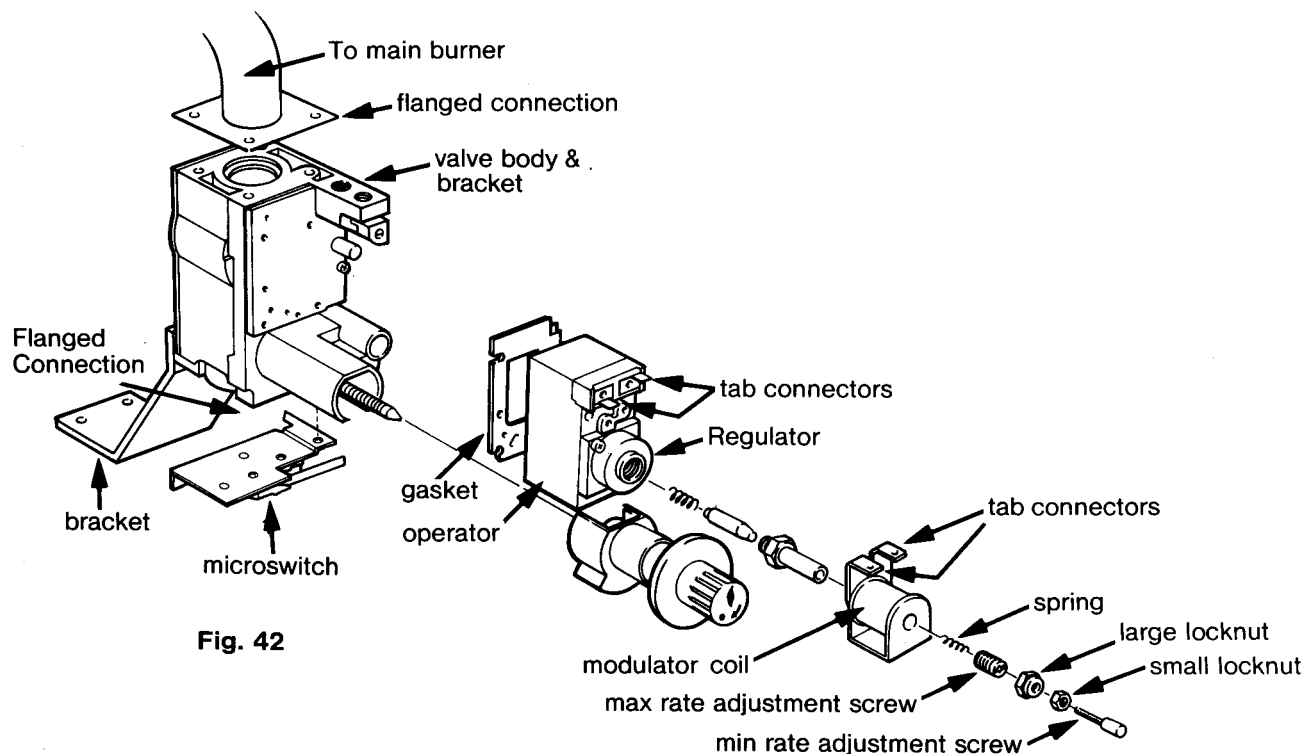

Fig. 42
8.13 To remove/replace gas control valve modulator and operator (Refer to fig 42)
8.13.2 Modulator Coil (fig 42)
8.13.3 Operator (fig 42)
8.13.4 Gas Control Valve (fig 42)